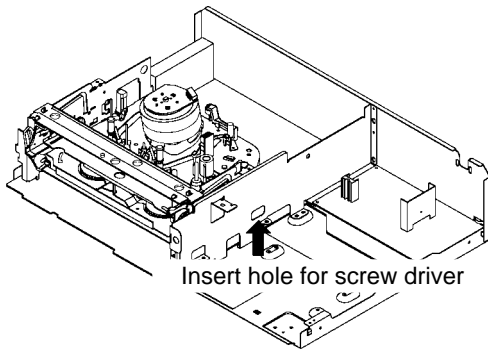

Fig. 1
1. Remove the Top Cabinet, Front Cabinet and DVD Block and the Fig. 1 below can be seen. **(Refer to item 1 of the DISASSEMBLY INSTRUCTIONS.)**